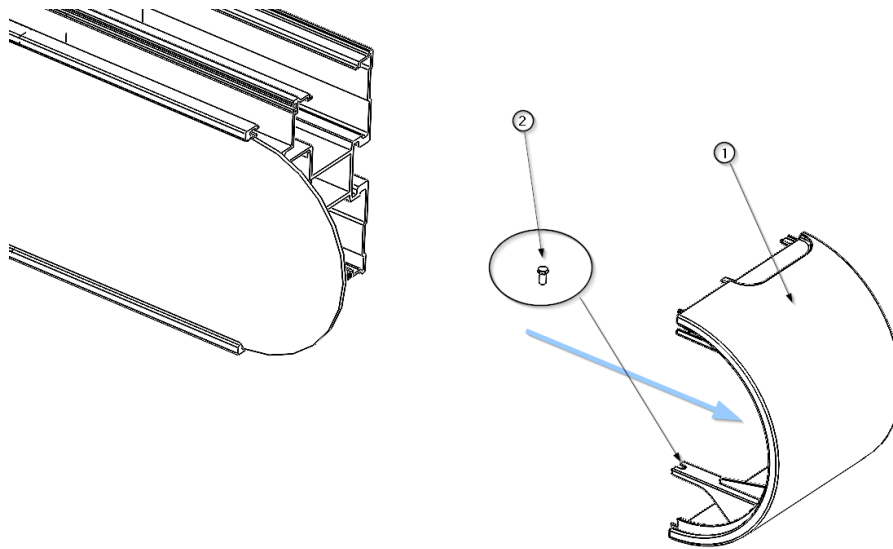

Fig. 5 Removal of side walls
- Remove the M4 x 10 screw (2) DIN 7505 and slide the end cap (1) in the direction of the equipment chassis to remove it as shown in figure 5.
- To refit the end cap (1) simply push it into position in the direction of the chassis until the end cap stops and fit the fixing screw (2).